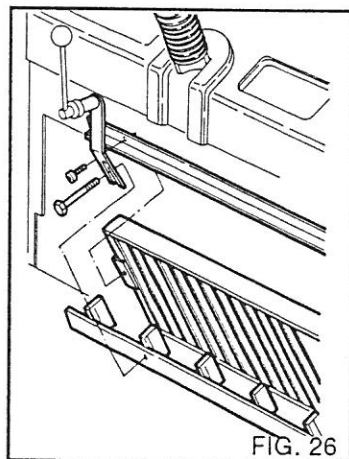

FIG. 26
- 3) Slacken the 2 retaining screws of the filter anchoring brackets (fig. 26).